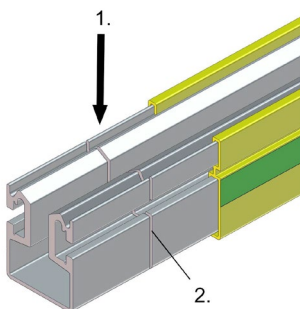

Fig. 33: Trimming the ProfiDAT® profile
- The cutting direction (1) must be from the open profile side, so from top to bottom (see Fig. 33).